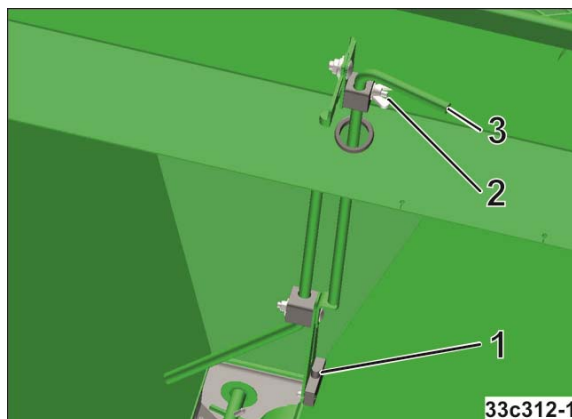

Fig. 64
1. Unscrew the wing nut (Fig. 64/2).
2. Adjust the height of the fill level sensor (Fig. 64/1) according to the desired residual material quantity using the handle (Fig. 64/3).